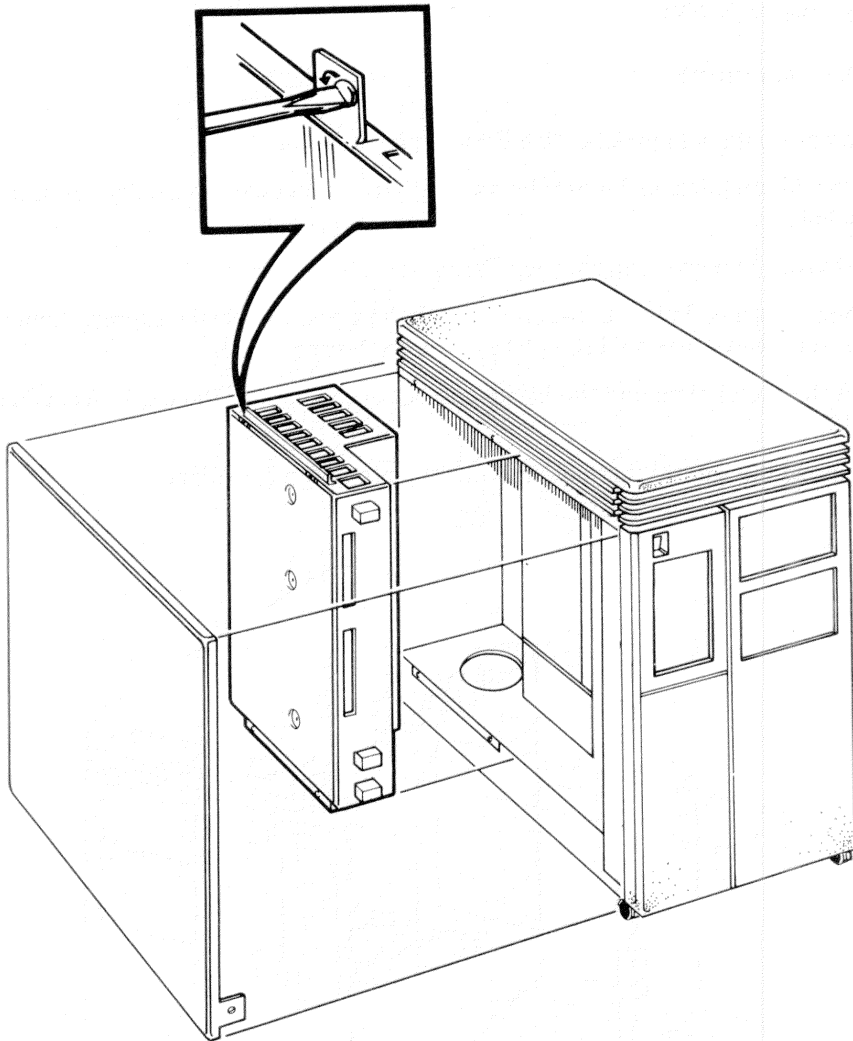

Figure 6-18 Power Supply Removal
3. Remove the four 1/4 turn fasteners holding the power supply to the enclosure frame and remove the power supply. (Figure 6-18)